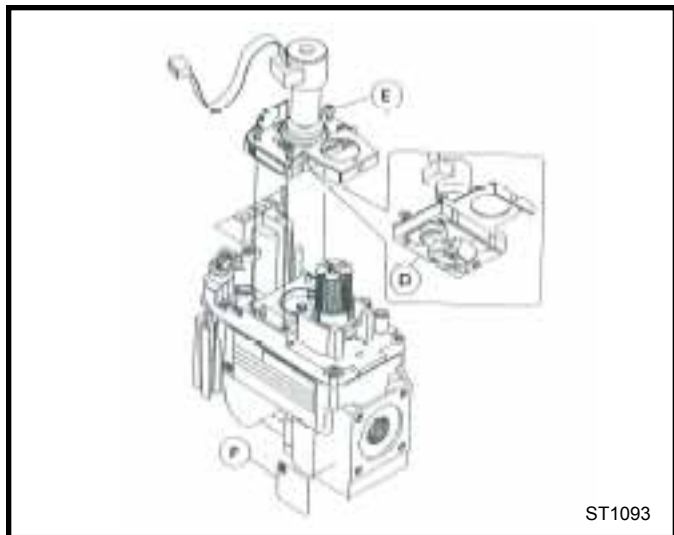

Figure 76 Remove mounting screws from old pressure regulator assembly. Replace step motor with new conversion step motor.
2. Insure the rubber gasket (D) is properly positioned and install the new step motor (E) pressure regulator assembly to the valve using the new screws supplied with the kit. Tighten the screws securely. (Ref. torque = 25 in/lb) (Figure 76)
3. Install the identification label (F) supplied with the step-per motor to the valve body where it can easily be seen. (Figure 76)